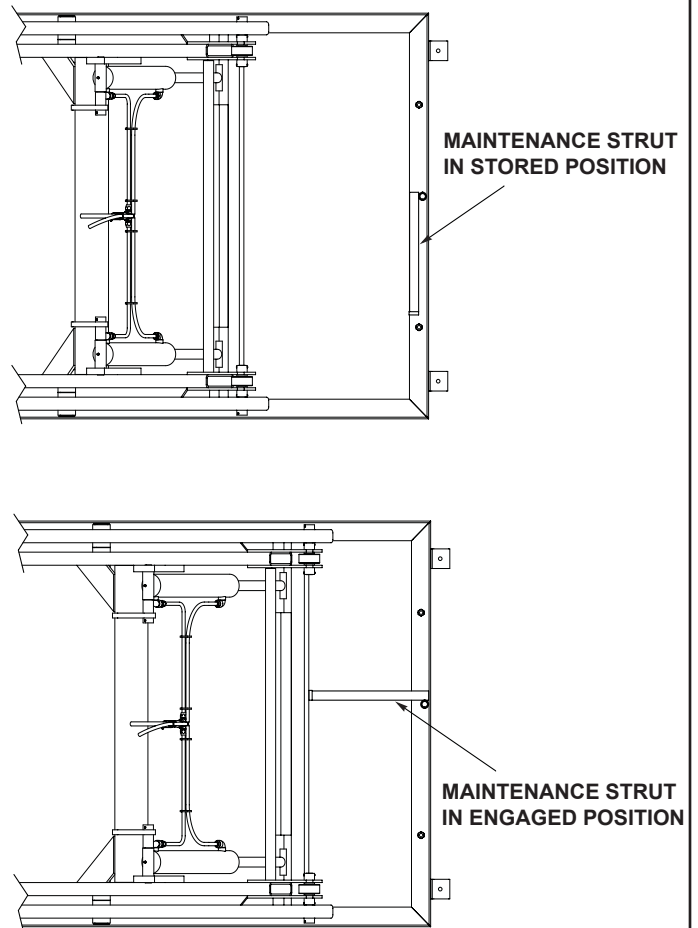

FIGURE 2 - ENGAGE MAINTENANCE STRUT
- Place Maintenance Strut in position. See Figure 2.